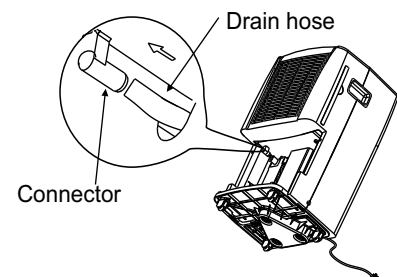

Fig.9
- Insert the water hose through the hole in the back of the unit and securely press it onto the connector on the front of the unit (Fig.9). Then lead the water hose to the floor drain or a suitable drainage location.